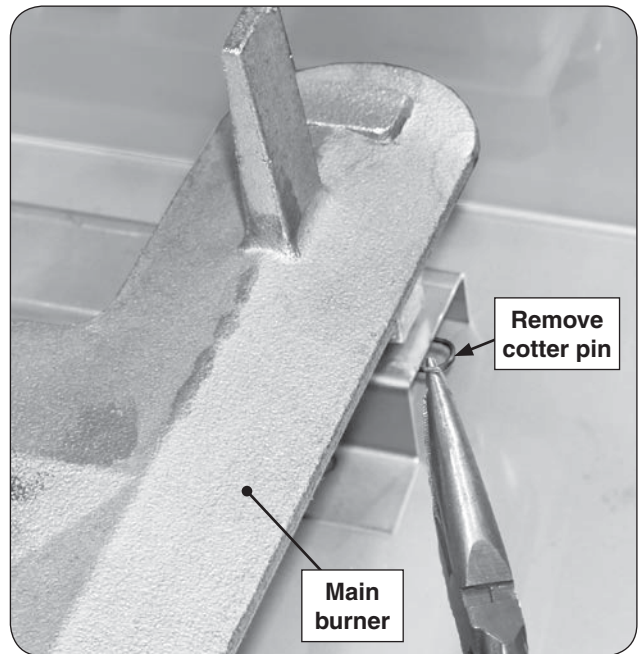

Fig. 40-1 Main burner removal
2. Locate and remove the cotter pin from the left or right rear burner anchoring peg by pulling it straight out of the cotter pin hole using fingers or needle-nose pliers. See Fig. 40-1.